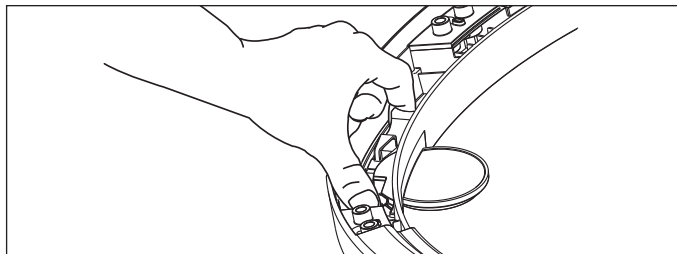

Figure 4-7.
3. Grasp the indicator on the latch side between finger and thumb and rock it upward, pivoting away from the center of the glass. (See Figure 4-7)